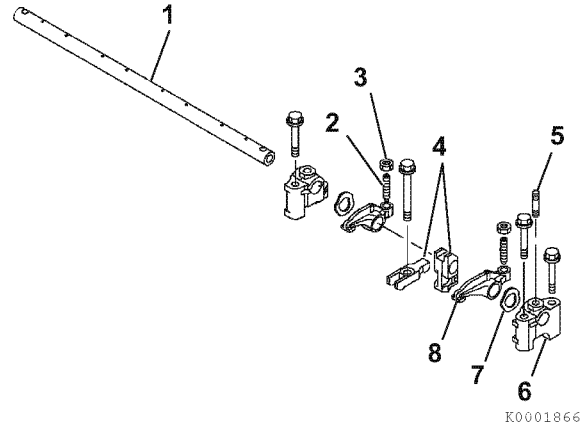

Figure 6-75
3. Lubricate the rocker arm shaft. Slide the rocker arm supports (6, **Figure 6-75**), wave washers (7, **Figure 6-75**), rocker arms (8, **Figure 6-75**), and fuel injector retainers (4, **Figure 6-75**) onto the shaft.
Note: To properly align the rocker arm shaft with the rocker arm shaft supports, first reinstall one of the end rocker arm supports (6, **Figure 6-75**) with a hole for the shaft alignment stud (5, **Figure 6-75**). Align the hole in the rocker arm shaft and the hole in the rocker arm support bracket. Reinstall the alignment stud.
Note: **Figure 6-75** shows components for one cylinder. Components for all remaining cylinders are assembled in the same order.
4. Position the rocker arm assembly on a flat surface. Reinstall the alignment studs (5, **Figure 6-75**).
6. If removed, reinstall the valve adjusting screws (2, **Figure 6-75**) and lock nuts (3, **Figure 6-75**).